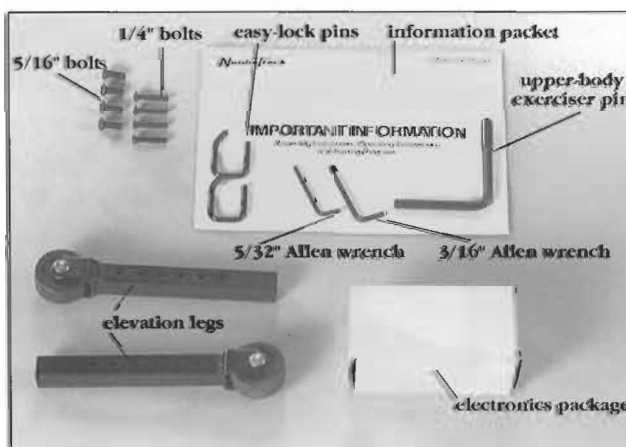

Figure 5
- 4 5/16-inch bolts (Figure 5)
- 4 1/4-inch bolts (Figure 5)
- 2 Elevation legs with wheels (Figure 5)
- 2 Easy-lock pins (Figure 5)
- 1 Upper-body exerciser pin (Figure 5)
- 1 Electronics package (Figure 5)
- 1 Information packet (Figure 5)
- 1 3/16-inch Allen wrench (Figure 5)
- 1 5/32-inch Allen wrench (Figure 5)